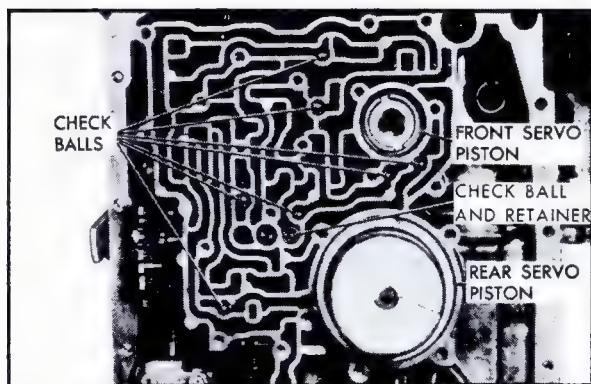

Fig. 7-218 Location of Check Balls
- a. Install seven check balls in cored passages, Fig. 7-218.